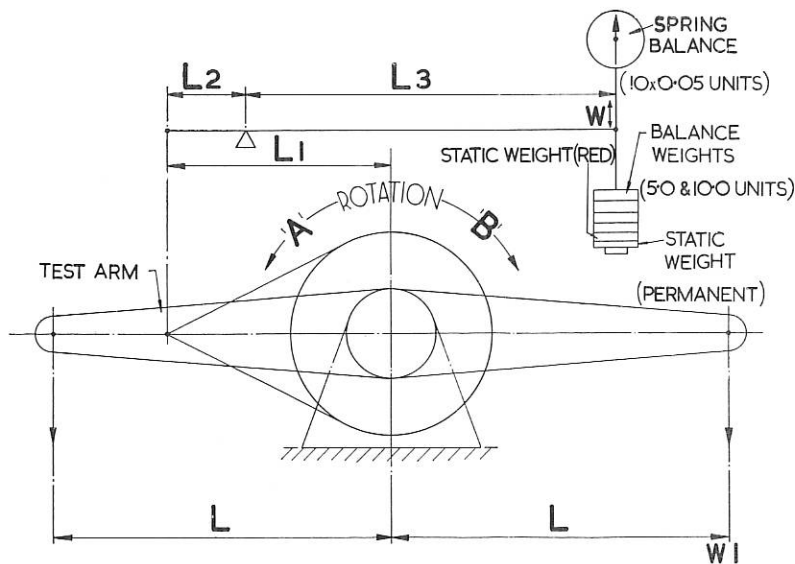

Fig. 6. Lever Lengths, Arm Ratios and Constants for Froude G. Type Dynamometers.
- (4) Make sure that the rotatable sleeve embracing load control valve is set to correct position for loading, i.e. not to "Load Off" position (see Section 6).
- (5) Make sure that the removable static weight (painted RED) is on or off the balance weight bolt according to whether 'A' or 'B' direction of rotation is required (see Section 16 and Fig. 6), and that all other loose balance weights are removed.
- (6) Adjust dashpot bypass to zero or free setting (see Section 13) by unscrewing the knurled nut (anti-clockwise).
- (7) Check that the Dynamometer spring balance indicates zero by depressing and lifting the balance weight bolt to ensure that the spring balance pointer returns to zero or to a position equidistant each side of zero.
- (8) If the spring balance pointer does not indicate zero, rotate the small screw (in the appropriate direction) which can be found underneath the small plate marked "Adjust" situated on the top of the spring balance casing. If the zero setting for some reason is considerably out, then the value of the static weight must be adjusted.
In the G. type Dynamometer the marked values on the spring balance dial and the balance weights are referred to simply as units. In actual fact the calibrations are in English lb. weight. However, the reason for this is the fact that the Dynamometers can then be used for calculating both English B.H.P. and Metric C.V., while at the same time using the same horse power calculation constant K. To accomplish this end it is only necessary to make a slight adjustment in the ratio of the weighing gear to account for the small difference between English and Metric H.P., i.e. 0.9863 to 1.0. This adjustment is made at Heenan & Froude's Works before despatch, according to whether the machine is desired to conform to English or Metric standards. In this connection please refer to the weighing gear diagram, Fig. 6.
The Dynamometer itself should be set in static balance; the test arm is then attached and fitted with a weight bolt at either end. If necessary, a small temporary weight should be added to either side of the test arm to re-balance the Dynamometer to zero when the test arm is fitted. It is then possible to apply known weights to the end of the test arm, either in English lb. or Metric Kgs., to observe the readings given by the weighing gear. The records of such periodic check tests should be preserved for inspection in the event of any query concerning the accuracy of the Dynamometer. The test arm is a standard unit which can be supplied as an accessory with Dynamometer, or alternatively particulars for the manufacture of the unit can be supplied. In this connection please also refer to the weighing gear diagram, Fig. 6.